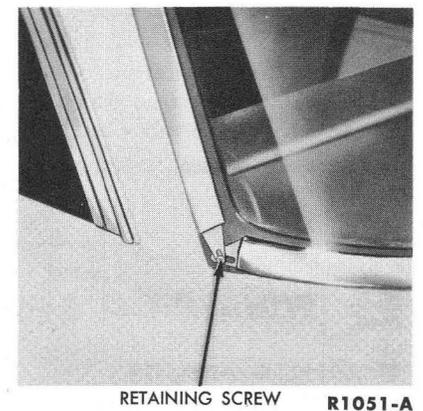

FIG. 17—Back Window Outside Moulding Screw
1. After removing the moulding joint covers, remove the outside moulding retaining screws (Fig. 17).